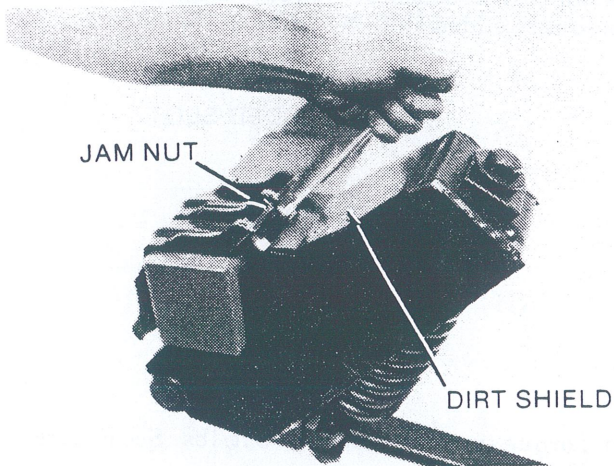

Figure 38
- (1) Loosen the two Jam Nuts that retain the Dirt Shield. See Figure 38.